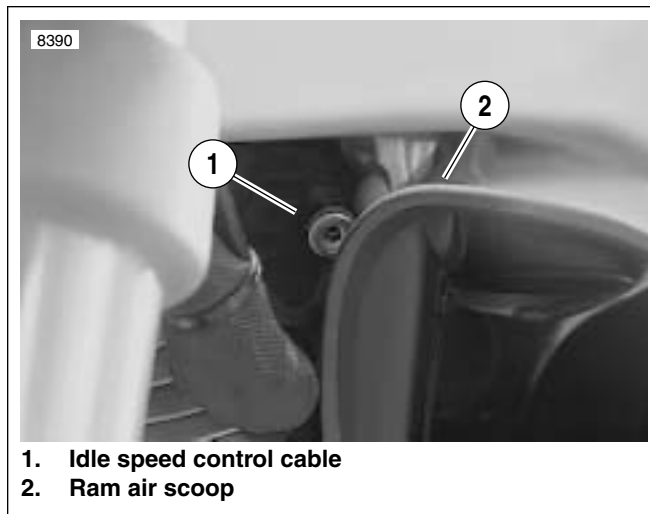

Figure 4-28. Idle Adjustment Cable
See Figure 4-28. The idle speed control cable (1) is located on the left side of the vehicle between the front cylinder head and the ram air scoop assembly (2). Idle speeds are listed in 4.1 SPECIFICATIONS. A 3/16 in. allen wrench may be used to turn adjuster knob.